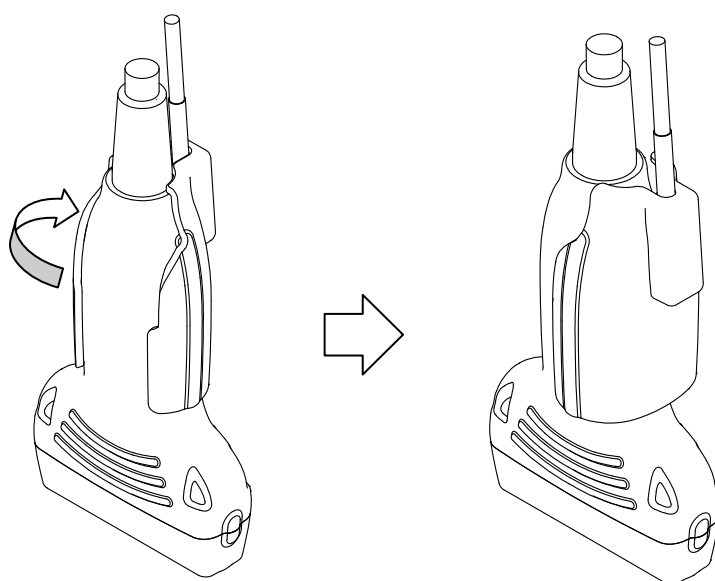

Fig. 7 How to release the Magnetic sensor attachment from the probe
- 1) Turn around the magnetic sensor attachment and remove it from the probe as shown in Fig. 7.